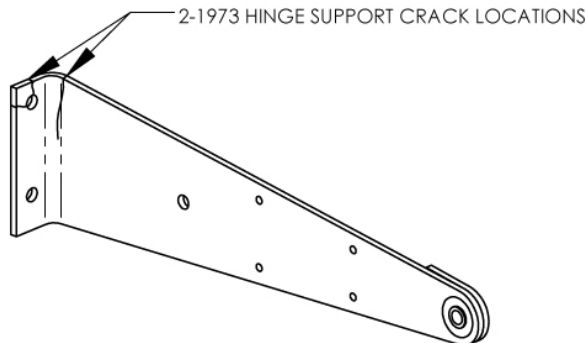

Figure 5, Hinge Support Hinge Locations
6. Visually inspect hinge support for cracks as shown in Figure 5 (2 locations per wing). The cracks may originate from the upper or lower edge of the support and propagate along the bend line. Inspection should include the bolt locations at the rear spar. Inspection of the middle hinge is difficult; the use of a borescope may be necessary.